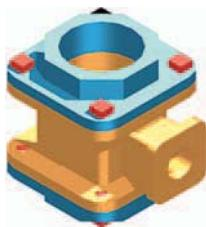

Fig. 17.9 Second example **UCS** – steps 12 and 13 + rendering
Second example – UCS (Fig. 17.9)
13. In the **UCS *WORLD*** view, move the parts into their correct position relative to each other. **Union** the two filleted rectangular extrusions and the main body. **Subtract** the cylinder from the whole (Fig. 17.9).